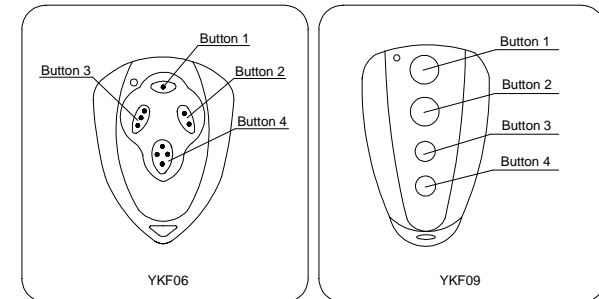

Fig.17
- The remote control works in a single channel mode. It has four buttons. See Fig.17 The function of button 1, button 2 and button3 are the same. With each press of the remote control button which has been programmed, the gate will close, stop, open or